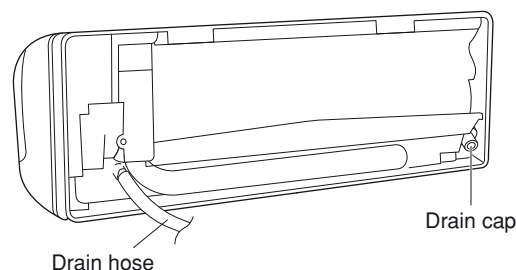

Fig. 39a
- (a) Locate the drain hose and the drain cap. (Fig. 39a)
- (b) Remove the screw fastening the drain hose on the right side, and pull out the drain hose to remove it. (Fig. 39a)